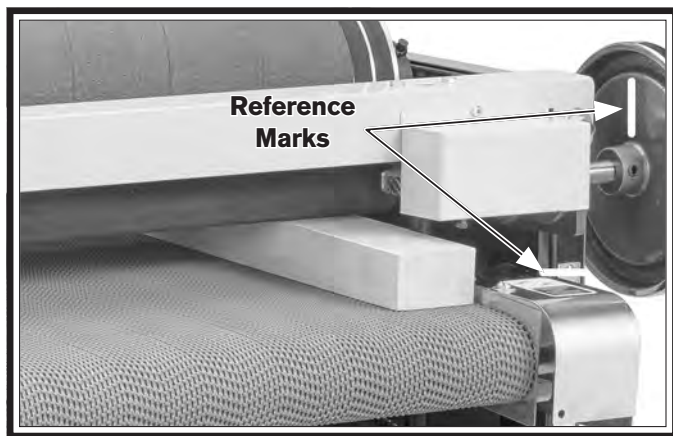

Figure 42. Reference Height #1.
6. Mark location of handwheel with a felt pen or piece of tape. In same manner, mark height of table in relation to body of sander. Both marks indicate exact table position, referred to as *Reference Height #1* (see **Figure 42**).